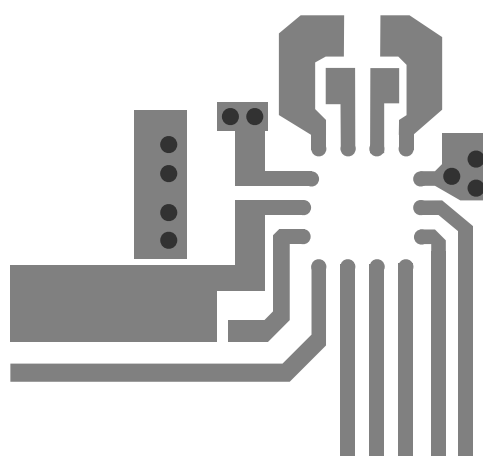

Figure 3 — Layer 1
- Figure 3 shows the pads on layer 1 that should be connected with vias to layer 2. C_{IN'}, C_{OUT} and the GND pin all use vias to connect to the ground plane. The OUT pin also uses vias and routes on layer 2.